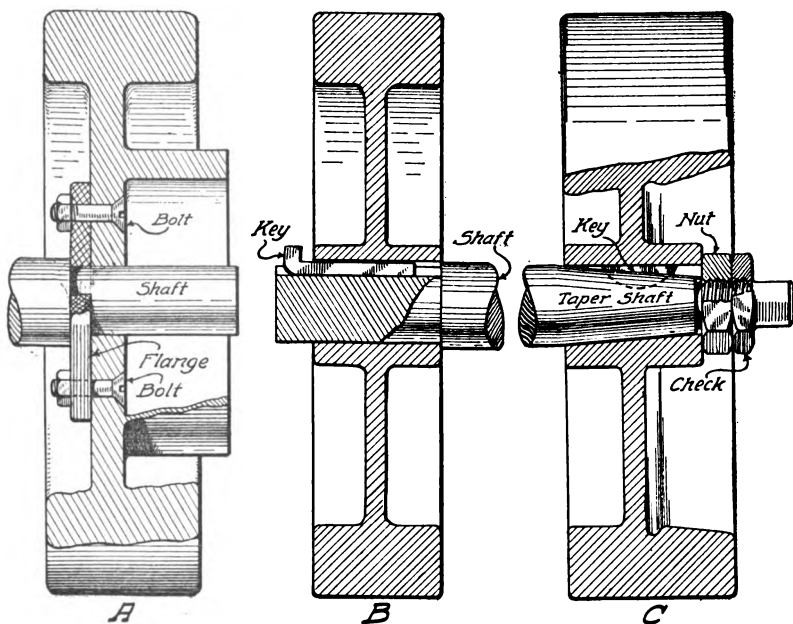

Fig. 245. Three Common Methods of Fastening Flywheel: A, Flange and Series of Bolts; B, Plain Key; C, Key, Taper and Nut
**Methods of Fastening Flywheels.** That part of the flywheel which is most interesting to the repair man is the method of fastening, or rather the inverse of this, the method of removal. There are three general methods of fastening flywheels to crankshafts, and these are shown in Fig. 245. They are the plain round end with a key, as shown at *B*; the tapered end with key, nut, and lock nut, as shown at *C*; and the method of bolting to a circular flange integral with the crankshaft, as indicated at *A*. The first is widely used for stationary gas and marine engines of very low price, but very little, if at all, on automobile engines. The second has been used, but is rapidly going out, as it is, like the first, a low-priced method which did not prove satisfactory. The third method is rapidly becoming universal.
In use, the flywheel flange on the crankshaft is generally five or six inches or a figure between these, in diameter, with six to ten bolts. In the form shown at *C*, Fig. 245, the flange is exterior to the flywheel, but in Figs. 217 and 223, the more general method of grooving the flywheel hub to receive the flange will be noted. In Fig. 245, the bolt shown has a countersunk head let into the flywheel surface; in general, the bolt head is either standard or else round and set into a countersink. In this case, it is slotted for a screwdriver. Also a single nut is shown, whereas a nut and lock nut, or, at least, nut and lock washer, are always used.